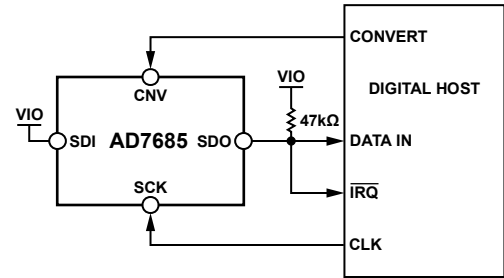
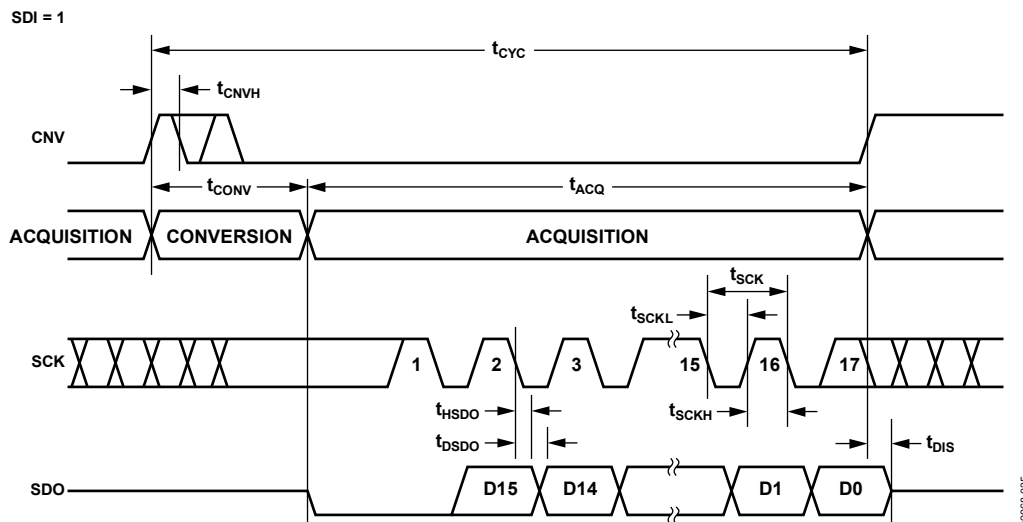
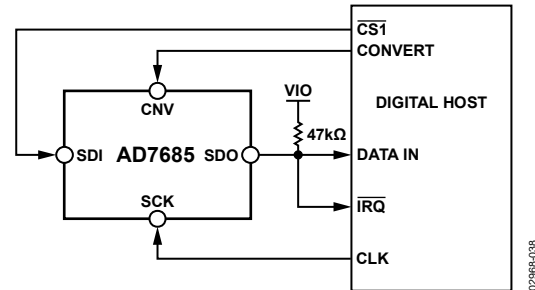
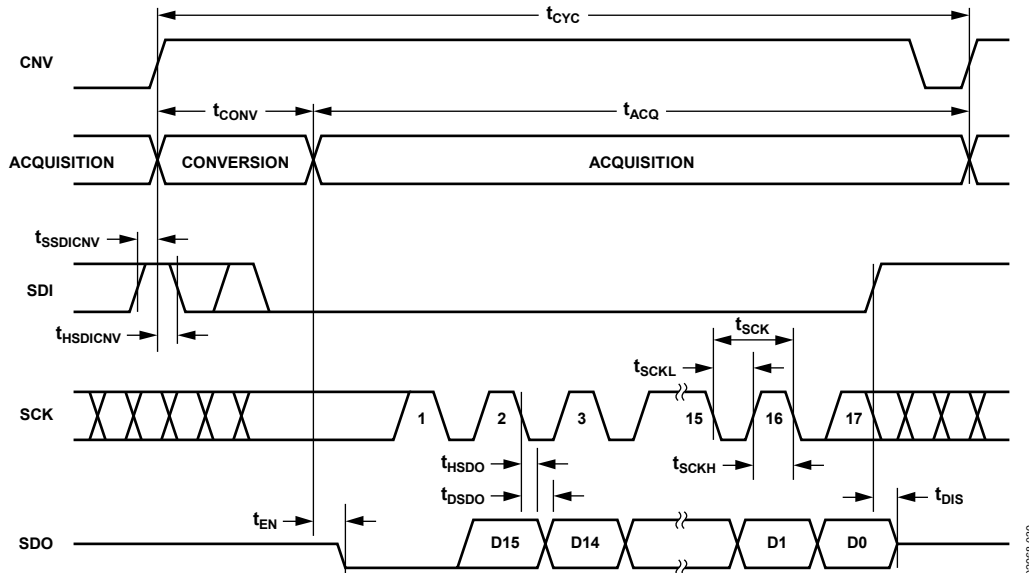

Figure 36. $\overline{\text{CS}}$ Mode 3-Wire with BUSY Indicator Connection Diagram (SDI High)
Figure 37. $\overline{\text{CS}}$ Mode 3-Wire with BUSY Indicator Serial Interface Timing (SDI High)
Figure 40. CS Mode 4-Wire with BUSY Indicator Connection Diagram
Figure 41. CS Mode 4-Wire with BUSY Indicator Serial Interface Timing
- In the $\overline{\text{CS}}$ mode, if CNV or SDI is low when the ADC conversion ends (see Figure 37 and Figure 41).
The connection diagram is shown in Figure 36, and the corresponding timing is given in Figure 37.
The connection diagram is shown in Figure 40, and the corresponding timing is given in Figure 41.